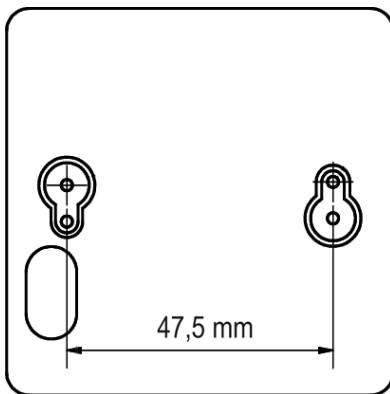

Figure 1 - Assembly drawing
2. Drill holes to mount the sensor, observing the position of the cable outlet (Fig. 1).